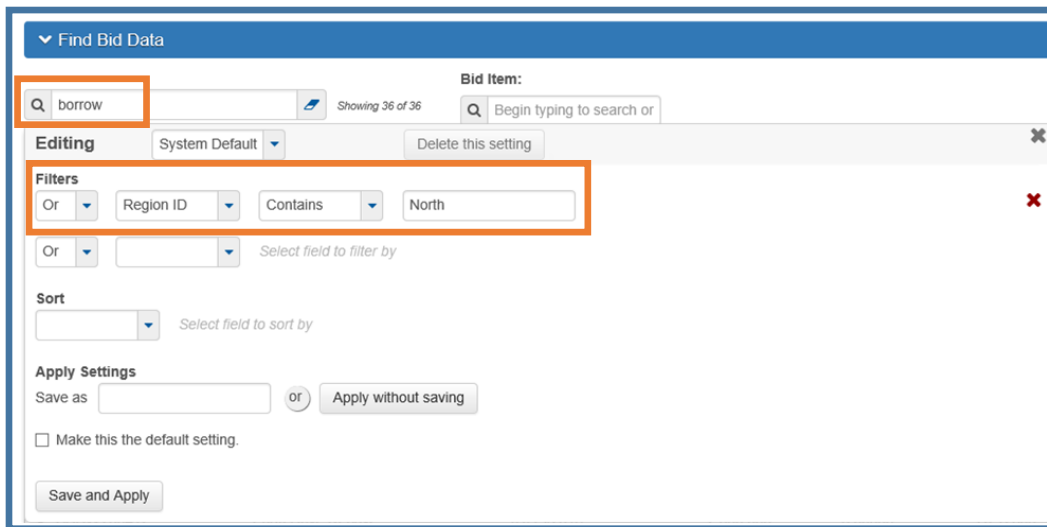

Figure 3.35
4. Use a combination of the first three to really narrow down search results (*Figure 3.35*). See the Search, Sort and Filter section of chapter 2 for more information on building filters.